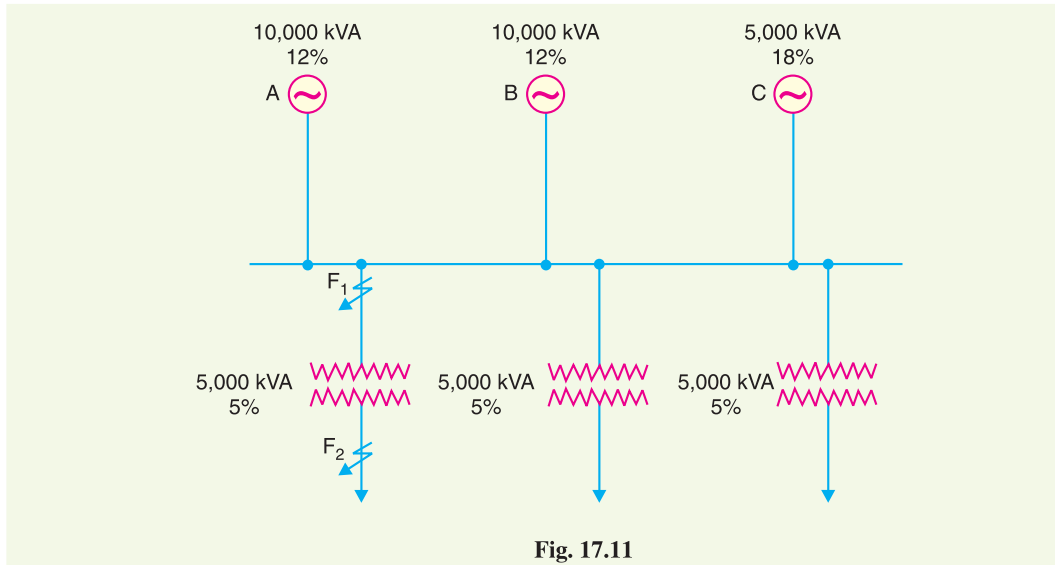

Fig. 17.11
Solution. Fig. 17.11 shows the single line diagram of the network. Let 10,000 kVA be the base kVA.
- (i) When the fault occurs on the low voltage side of the transformer (point F_1 in Fig. 17.11), the reactance diagram at the selected base kVA will be as shown in Fig. 17.12. Obviously, the
(ii) When the fault occurs on the high voltage side of the transformer (point F_2 in Fig. 17.11), the reactance diagram will be as shown in Fig. 17.13.